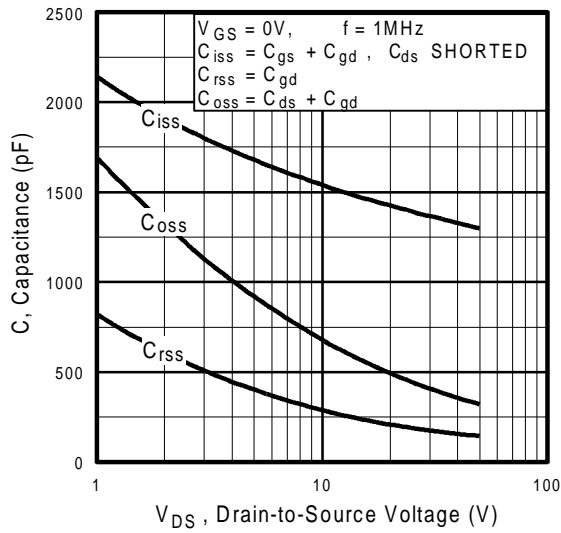

Fig 5. Typical Capacitance Vs. Drain-to-Source Voltage
| C _{rss} | Reverse Transfer Capacitance | — | 150 | — | | f = 1.0MHz, See Fig. 5⑦ |